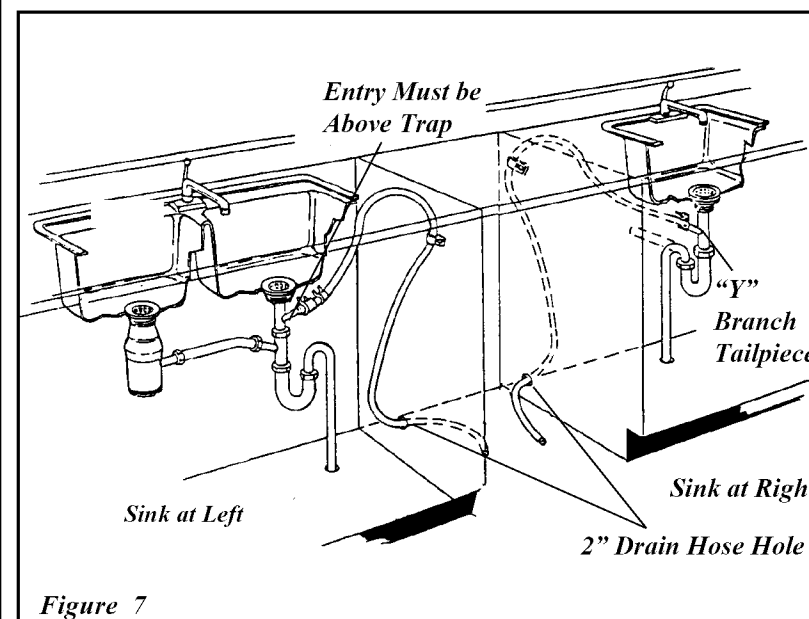

Figure 7
- Review Figures 7, 8 and 9 to see the different ways to connect dishwasher to drain system. Choose method that best suits your need.
- If you connect to a sink drain, entry will need to be above trap. A "Y" branch tailpiece and connector kit, not included, will make this method easier and includes all needed fittings and instructions. See Figure 7.